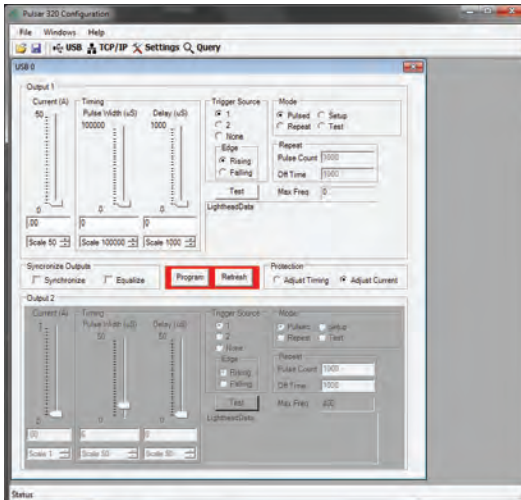

Figure 6: USB Connected
6. Upon Connecting to a USB port, the strobe settings window will open (Fig 6) - Grayed-out outputs mean no light is connected.